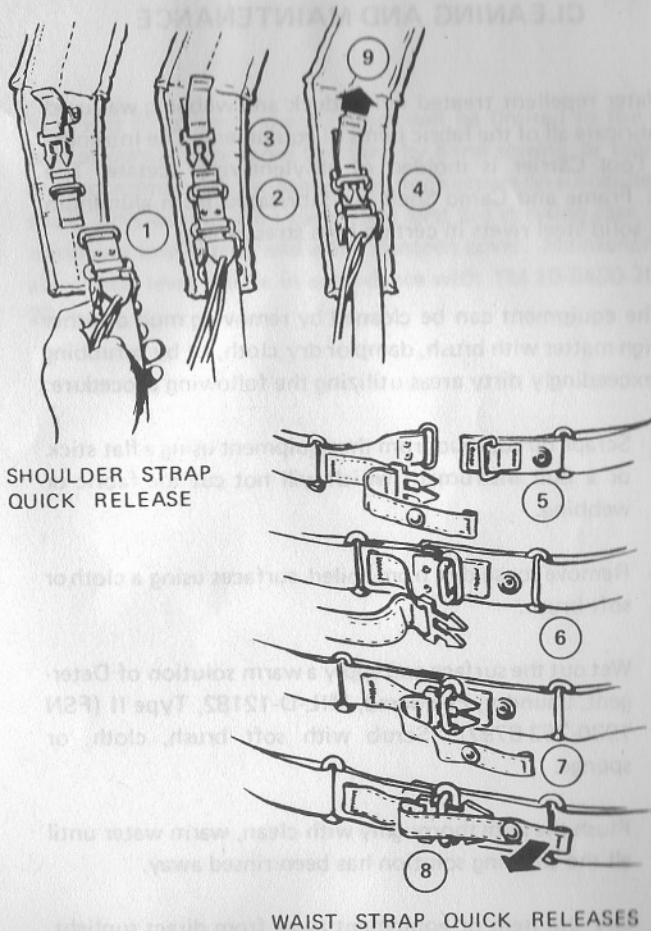

Figure 19. Shoulder Strap and Waist Strap Quick Releases
QUICK RELEASES (Figure 19)
Steps ① through ④ of Figure 19 show how the shoulder strap quick release is assembled. The metal loop at the top of the lower end of the strap ① is hooked over the metal loop ②. The plastic prongs ③ are pushed down through so that the locked assembly is as shown in ④.
Steps ⑤ through ⑧ of Figure 19 shows how to assemble the quick release on the waist strap.